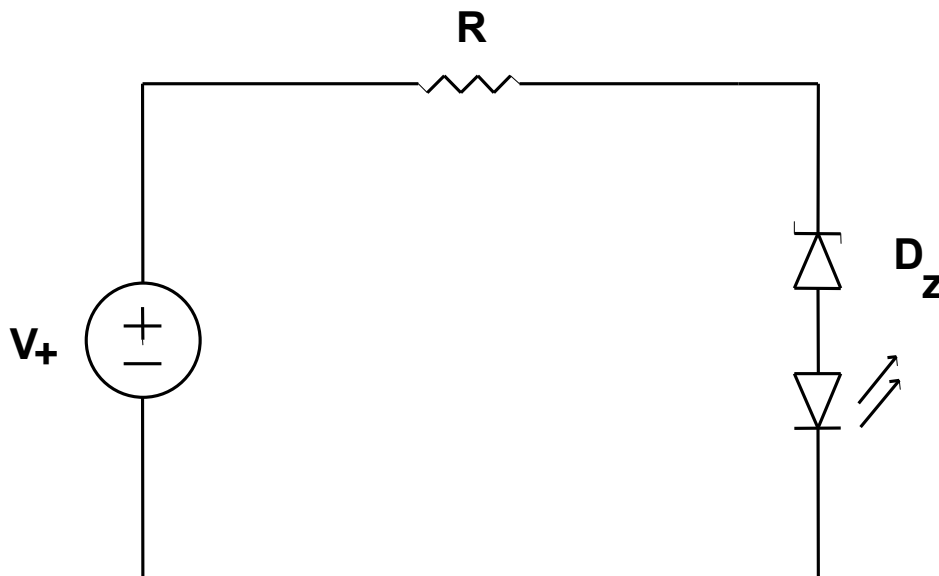

Figure 2. Zener diode voltage indicator using an LED
n. Place an LED between the anode of the zener diode and ground as shown in Figure 2. (Don't forget to remove the short circuit from the previous section). Vary the input voltage and record the voltage at the power supply for which the LED begins to glow.